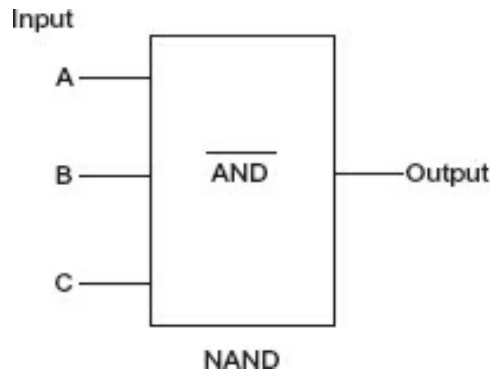

Figure R9-1. Circuit 1.
1. See Figure R9-1. In Circuit 1, inputs $A = 1$, $B = 0$, and $C = 1$. What is the output?